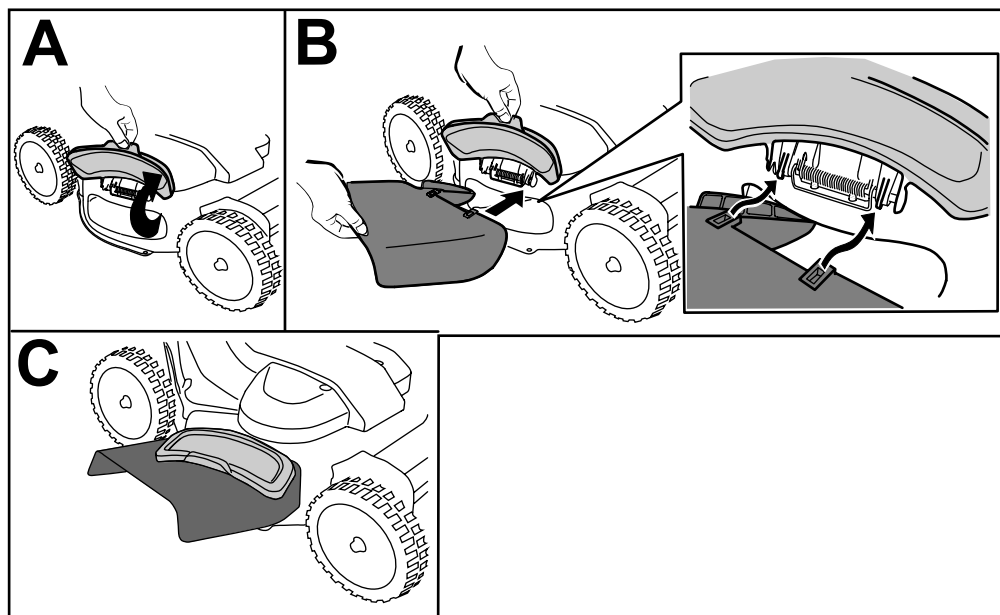

Figure 25
1. Lift open the side-discharge door (A of Figure 25).
2. Install the side-discharge chute and close the door onto the chute (B and C of Figure 25).